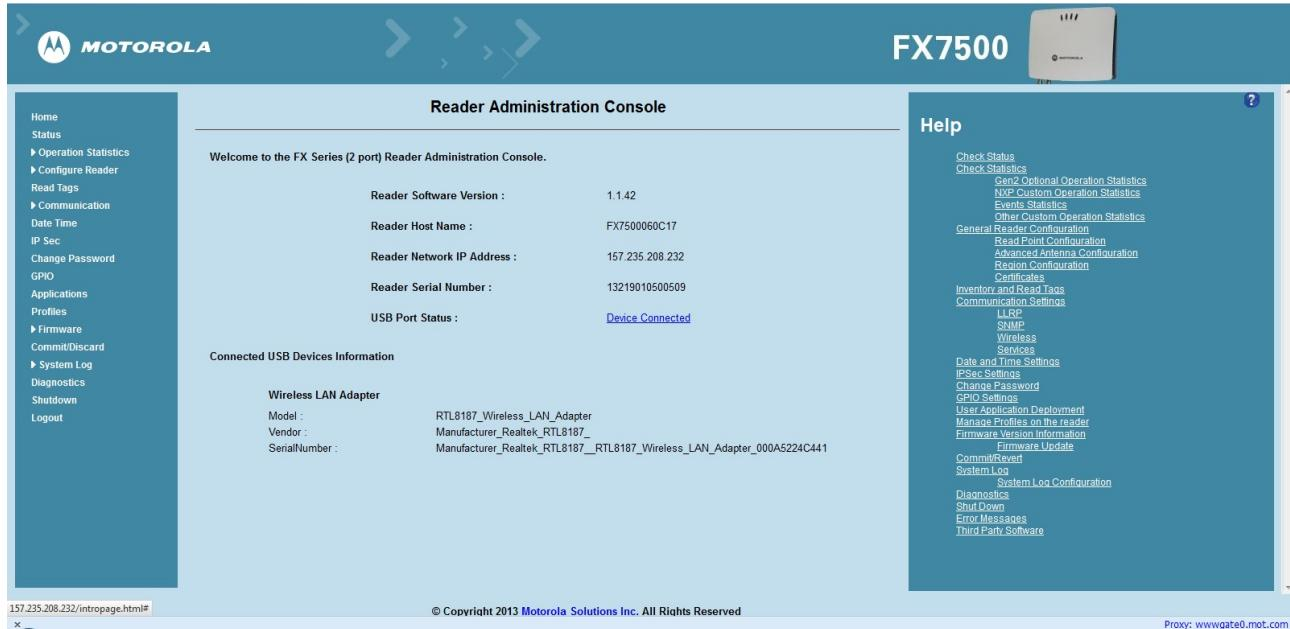

Figure F-2 *Wi-Fi Dongle Connected*
2. To confirm that the Wi-Fi dongle is detected properly, log in to the reader Administrator Console. On the Home page ensure the **USB Port Status** displays **Device Connected**. Hover the mouse pointer over this link to display the WiFi dongle information shown in *Figure F-2*.